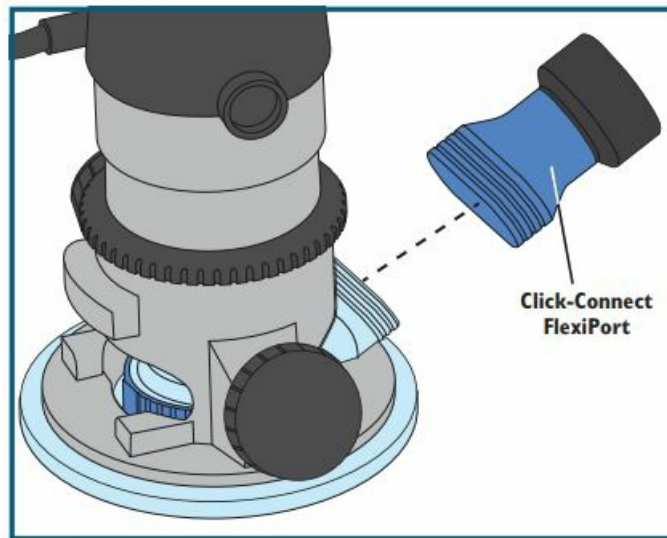

Fig. 2
9. Fit the rubber Click-Connect FlexiPort onto the dust outlet of the Rotary Mechanism. Fig. 2.
8. Fit the rubber Click-Connect FlexiPort onto the dust outlet of the Rotary Mechanism. Fig. 2.